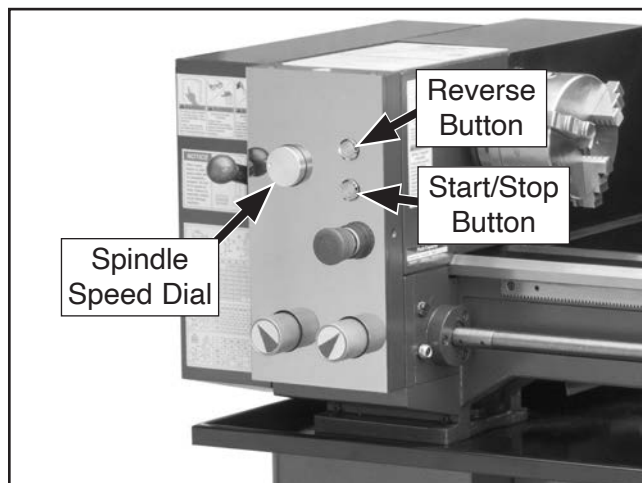

Figure 32. Control panel controls.
2. Press Start/Stop button (see **Figure 32**) to start spindle and allow spindle to run counterclockwise at lowest speed for 10 minutes.
3. Press Reverse button (see **Figure 32**) to reverse spindle direction and allow it to run clockwise at lowest speed for 10 minutes.
4. Use spindle speed dial (see **Figure 32**) to adjust spindle to about 250 RPM, then run spindle in either direction for 10 minutes.